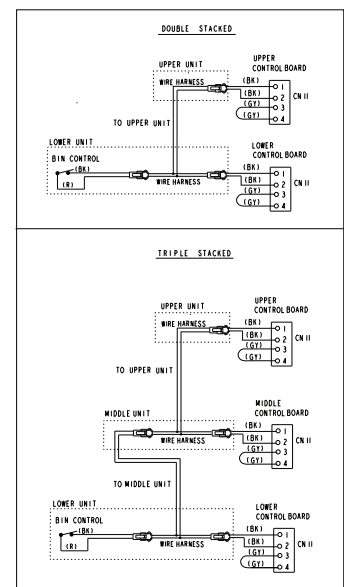

Fig. 16
29) Place the wiring label provided in this kit on the control box cover. See Fig. 16.